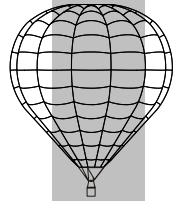

Figure 9
- Access to the main valve sleeves will be greatly improved by first removing the igniter assembly (section 5.6), the fuel filter assembly (section 5.9), the pressure gauge (section 5.11), the liquid fire jet (section 5.12) and the two screws used to secure the external body (item 26, Figure 9).
- Remove the "O" seal (item 17) from the underside of the jet lower flange where it mates with the valve block. Check the condition of the seal. If any deterioration of the seal is detected, it must be replaced.
To remove the liquid valve handles, refer to Figure 9 and proceed as follows:
To remove the double action mechanism, refer to Figure 9 and proceed as follows:
The external valve body is fitted on the underside of the main valve block and encloses the main and liquid valve bonnets. In order to gain access to the main and liquid valves, the external valve body must be removed. To remove the external valve body, refer to Figure 9 and proceed as follows: